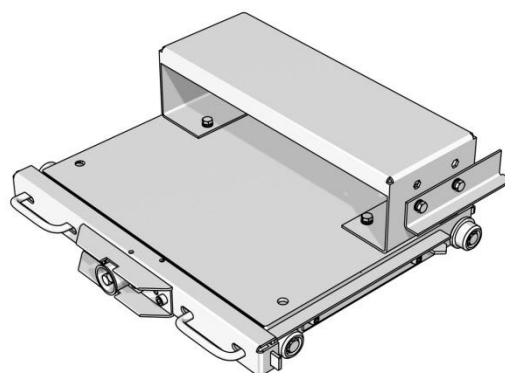

Fig. 4-17 Shutter lifter truck for cable side shutter
- For cable side shutters: Place push plate as indicated on the picture Fig. 4-17